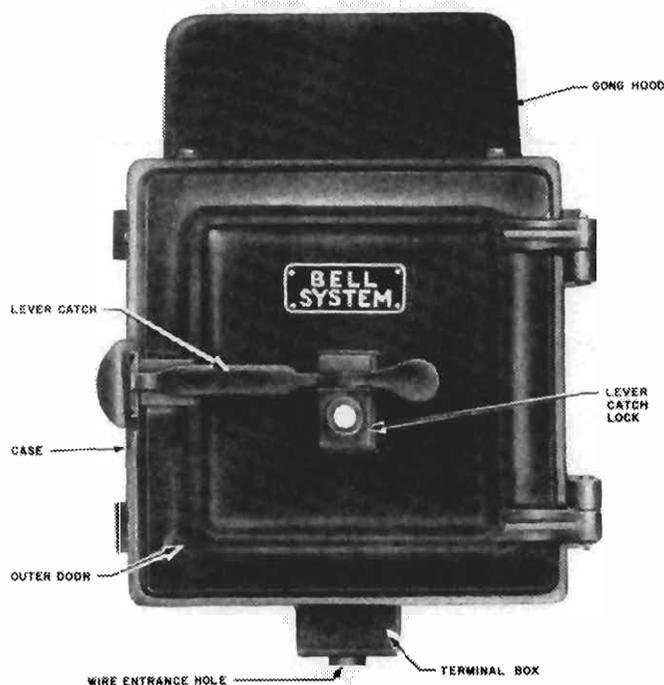

Fig. 1 - KS-19148, List 1 Telephone Set
2.01 The KS-19148, List 1 telephone set (Fig. 1 and 2) is a magneto wall-type set for use in mine stations below ground and exposed stations above ground where there is no danger of explosive gases.